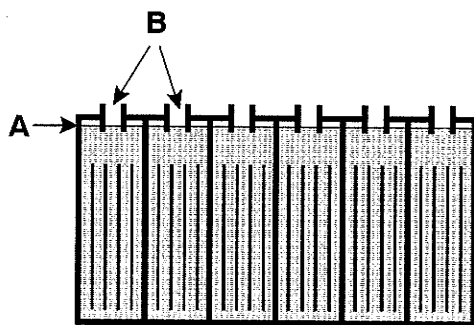

FIG. 36
2. After charging batteries, check fluid level (A) in each battery cell. Fluid level should reach bottom of sight tubes (B). If needed, add distilled water. **DO NOT** fill beyond bottom of sight tube (Figure 36).